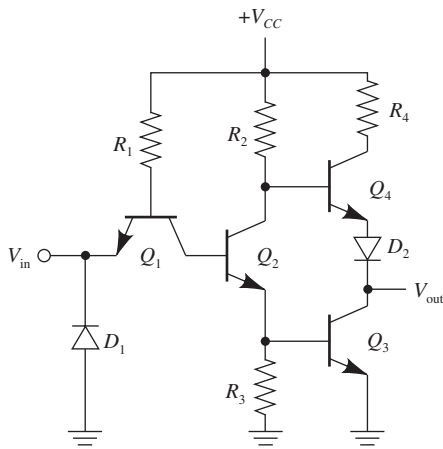
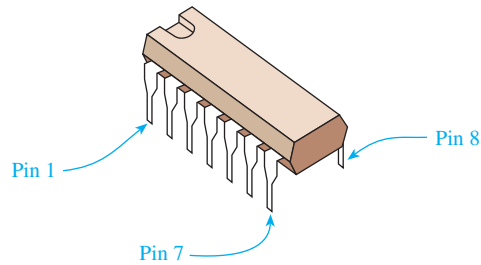
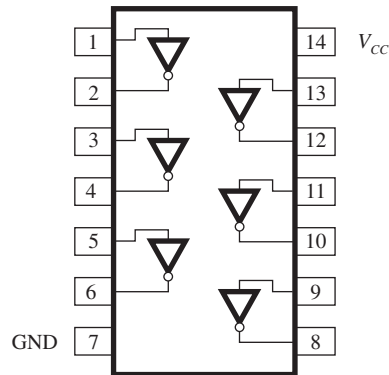

Figure 37 Schematic of a TTL inverter circuit.
Figure 38 A 7404 TTL IC chip.
Figure 39 A 7404 hex inverter pin configuration.
This idea of needing a variable R_C resistance is accommodated by the TTL **integrated circuit** (Figure 37). It uses another transistor (Q_4) in place of R_C to act like a varying resistance. Q_4 is cut off (acts like a high R_C) when the output transistor (Q_3) is saturated, and then Q_4 is saturated (acts like a low R_C) when Q_3 is cut off. (In other words, when one transistor is ON, the other one is OFF.) This combination of Q_3 and Q_4 is referred to as the **totem-pole** arrangement.
A single TTL integrated-circuit (IC) package such as the 7404 has six complete logic circuits fabricated into a single silicon **chip**, each logic circuit being the equivalent of Figure 37. The 7404 has 14 metallic pins connected to the outside of a plastic case containing the silicon chip. The 14 pins, arranged 7 on a side, are aligned on 14 holes of a printed-circuit board, where they are then soldered. The 7404 is called a 14-pin **DIP** (dual-in-line package) and costs less than 24 cents. Figure 38 shows a sketch of a 14-pin DIP IC.
The pin configuration of the 7404 is shown in Figure 39. The power supply connections to the IC are made to pin 14 (+5 V) and pin 7 (ground), which supplies power to all six logic circuits. In the case of the 7404, the logic circuits are called *inverters*. The symbol for each inverter is a triangle with a circle at the output. The circle is used to indicate the inversion function. Although *never* shown in the pin configuration top view of digital ICs, each gate is electrically tied internally to both V_{CC} and ground. The entire circuit shown in Figure 37 is contained inside each of the six inverters.
Figure 41(d) uses digital logic (inverters in this case) to turn ON the LEDs. One advantage of using logic gates is that you do not need to provide 5-V and 0-V levels as the input to the circuit as we did above. You need only to provide a voltage that looks HIGH to the input of the gate to make the gate’s output go to 5 V. (It gets its 5-V output voltage from the V_{CC} supply connected to pin 14 of the 7404 IC shown in Figure 39.) In this illustration, the R_7 potentiometer (variable resistor) is set to its top 25% point, which drops the 5-V supply by 25%, equaling approximately 3.75 V. This is definitely a HIGH input (1) to the inverters, making them output a LOW (0), which provides a path for the current to turn ON LED4. The current actually flows through LED4 into the output pin of U2A (pin 2 of the 7404 shown in Figure 39) and then down into ground via the ground pin 7 shown in Figure 39. At the same time, inverter U2C will output a HIGH (1) keeping LED5 OFF. The three voltmeters in the circuit show the voltage levels at various stages.
21. Which transistor in the schematic of the TTL circuit in Figure 37 serves as a variable R_C resistance?